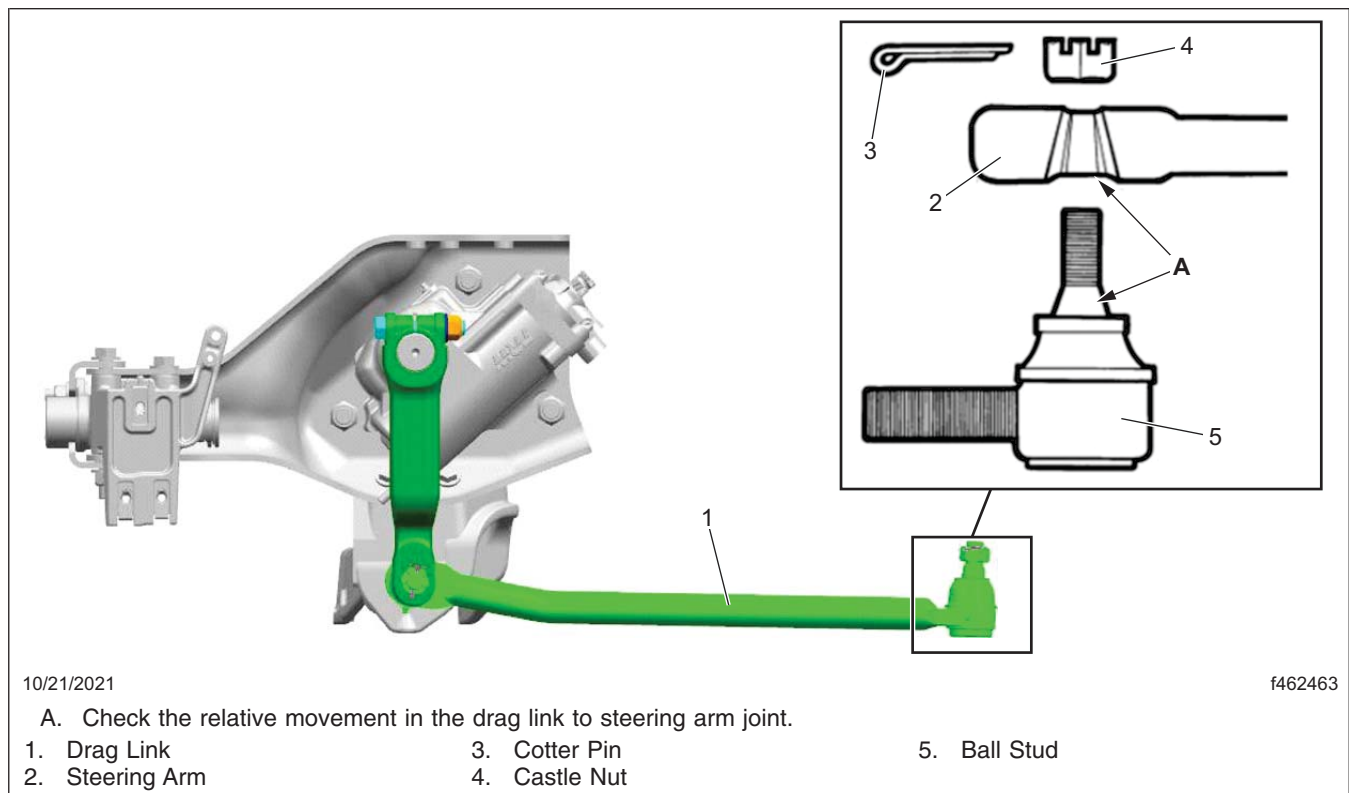

Fig. 1, Drag Link to Steering Arm Joint
4. Observe the behavior of the drag link steering arm joint. See Fig. 1.